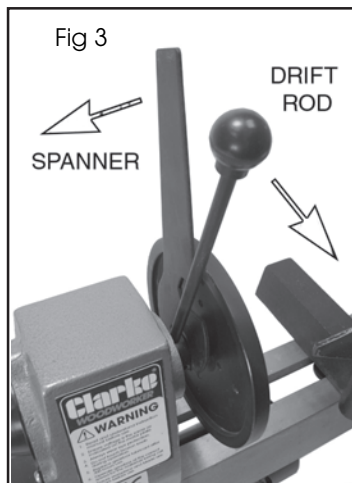

Fig 3
5. Screw the faceplate onto the headstock spindle while inserting the drift rod into the hole in the spindle to prevent it from turning. Tighten the faceplate using the open spanner provided as shown in Fig 3.